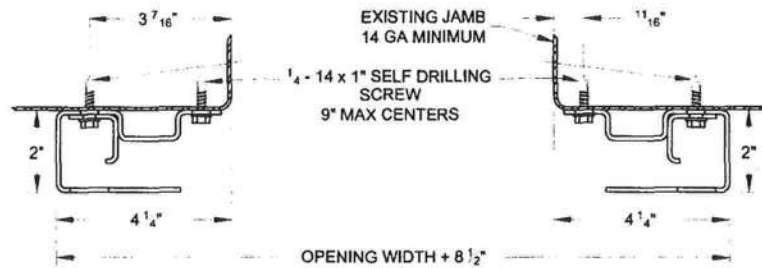

FIGURE 10: GUIDE MOUNTING - OPTION 3
- OPTION 3: Steel Jambs less than $\frac{3}{16}$ " thickness. $\frac{1}{4}$ " - 14 x 1" self drilling/tapping screws at toe and inside of guide. See Figure 10.